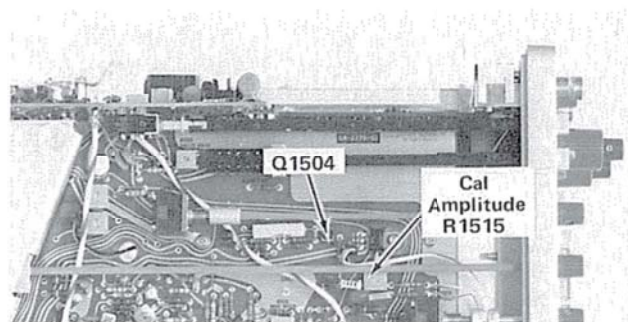

Fig. 5-32. Location of Q1504 and Calibrator amplitude adjustment.
b. Short the emitter and base of Q1504 together (see Fig. 5-32).
d. ADJUST—Calibrator Amplitude adjustment, R1515 (see Fig. 5-32) for +0.3 volt, within 1% from 0°C to +40°C; for +0.3 volt, within 1.5% from -15°C to +55°C.